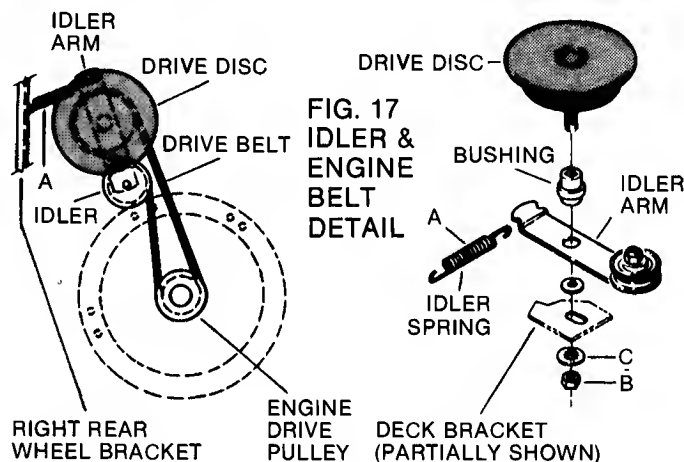

FIG. 17
Unhook the idler arm spring (A) from the right rear wheel bracket and remove the driven disc assembly as described in the DRIVEN DISC SECTION. Tilt the mower up on its LEFT wheels and remove the cutting blade and hub. Then, while holding the slotted end of the drive disc with a screwdriver, remove the drive disc retaining nut (B) and internal tooth lockwasher (C). Lift the drive disc up from its position on the idler arm and remove worn belt. Loop one end of replacement belt over engine drive pulley and insert other end through deck opening. Loop the belt around driven pulley (on the lower portion of drive disc) and lower disc back into position on idler arm. Make sure to reassemble components as shown in FIG. 17.